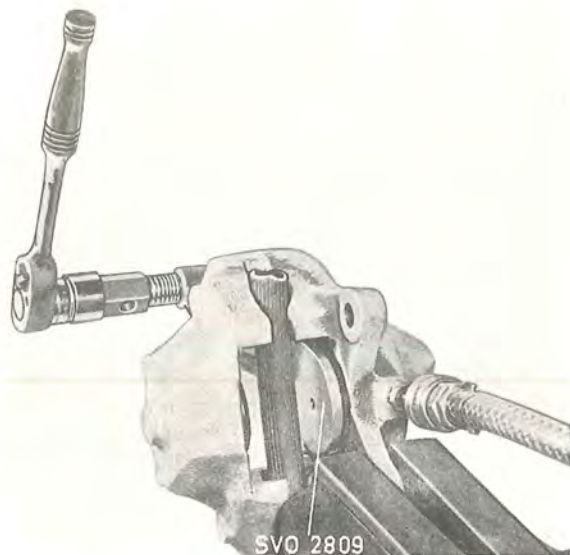

Fig. 5-27. Removing the piston
2. Remove the dust cover retaining rings and the dust covers. Place the caliper in a vice as shown in Fig. 5-27. Fit tool SVO 2809 and press one of the pistons down to the bottom. Fit a suitable venting connection, see Fig. 5-4, in the caliper. Place a hose piece in the caliper and force out the other piston. The pressure required may go up to about 7 kg/cm² (100 lb.sq.in.). Remove the piston.